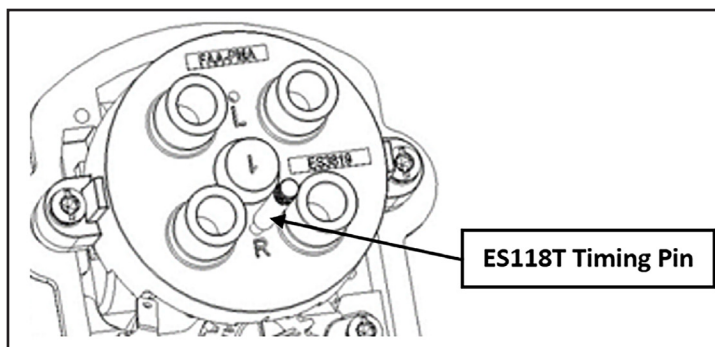

Figure 6.16 – Right Rotation
- C. Right Rotation magnetos only: Align the “R” hole in the distributor gear (25b) with the “R” hole in the distributor block assembly (25a). Lock the distributor gear in position by inserting the ES118T Timing Pin through the hole marked “R”. Refer to Figure 6.16.